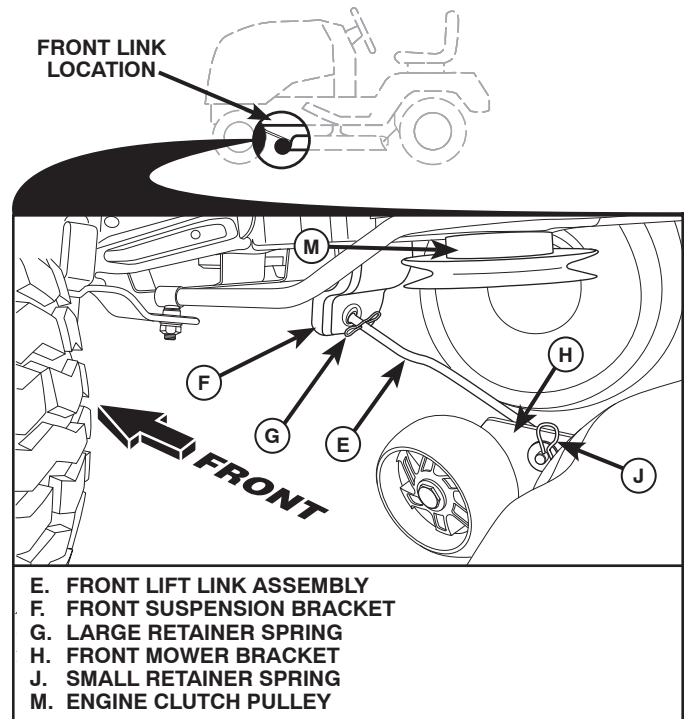

Fig. 32
## 8. ATTACH FRONT LINK (E) (See Fig. 32)
- From front of tractor, insert rod end of front link (E) through front hole in tractor front suspension bracket (F).
- Move to left side of mower and insert large retainer spring (G) through hole in front link (E) behind front suspension bracket (F).
- Insert other end of link (E) into hole in front mower bracket (H) and secure with washer and small retainer spring (J).